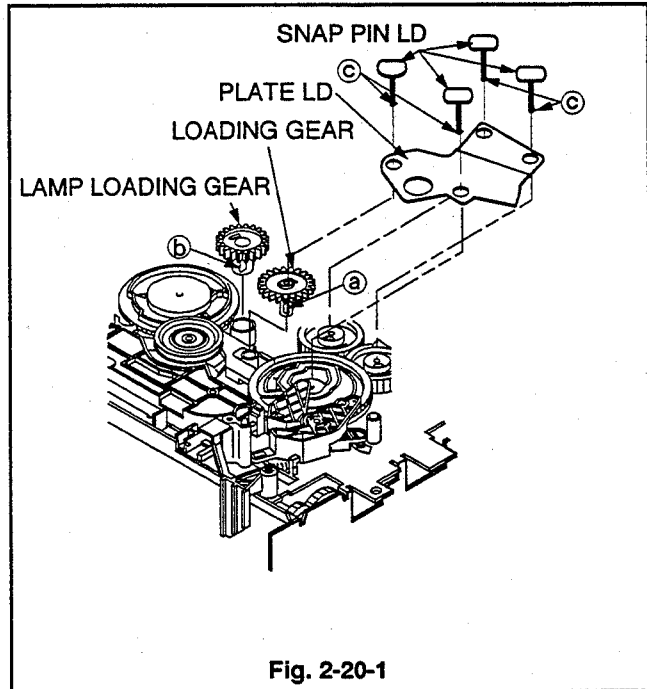

Fig. 2-20-1
1. Release the catches (©) of four **SNAP PIN LD**s securing **PLATE LD** as shown in Fig. 2-20-1, and remove **SNAP PIN LD**.
2. Use tweezers to unfasten Catch (Ⓐ) on the surface of the **LOADING GEAR**, shown in Fig. 2-20-1, and remove the **LOADING GEAR**.
3. Use tweezers to unfasten Catch (Ⓑ) on the surface of the **LAMP LOADING GEAR**, shown in Fig. 2-20-1, and remove the **LAMP LOADING GEAR**.
1. Install the **PLATE LD** and four **SNAP PIN LD**s shown in Fig. 2-20-1.
3. Install the **LAMP LOADING GEAR** shown in Fig. 2-20-1.
5. Install the **LOADING GEAR** shown in Fig. 2-20-1.